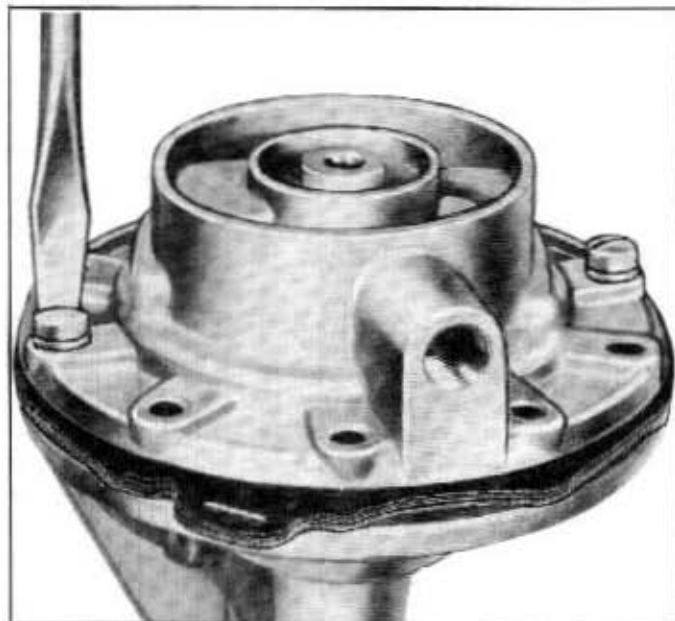

Fig. 8B-13—Two Screws Used As Pilots—(9M-6837)
4. Assemble the spring seat (cup side toward the spring) and spring on the fuel pump diaphragm rod. Insert the rod through the pump oil seal and hook the rod slot over the lower link with Tool 9350-A. See figure 8B-11.
6. Hold the rocker arm in the up position, and place the cover on the pump body, aligning the scribed marks. Be sure the diaphragm extends evenly all around the cover. Use two screws as pilots to hold the diaphragm in the proper position. See figure 8B-13. Start the remaining screws making sure they pass through the holes in the diaphragm without tearing the fabric.
A wire filter screen is used in the fuel pump sediment bowl. See figure 8B-14.